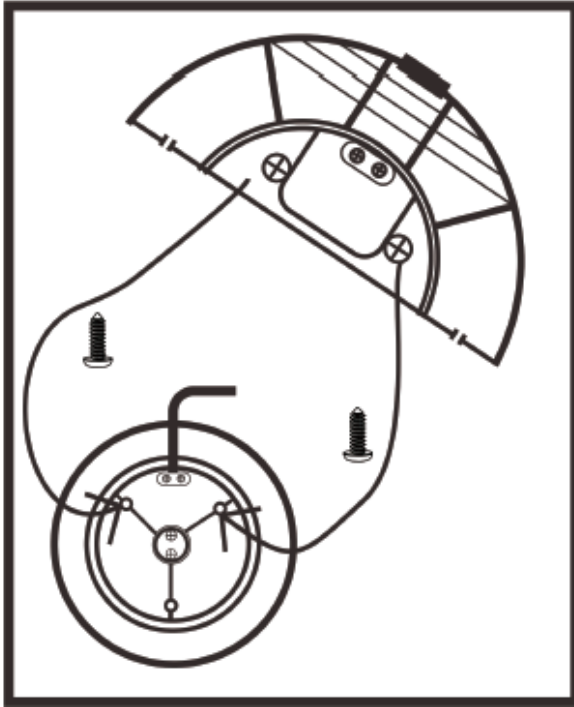

Abb. 3
- Now insert the second part of the stand (9) onto the motor (2) and the part of the stand (9) that has already been fitted. The power cable (8) must now pass through the center of the stand (9) and be threaded through the cable guides (see Fig. 3).